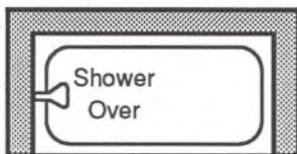

Fig. 8.4 Symbol for a bathtub with shower over.
The symbol for a bathtub is shown in Fig. 8.4 and on the drawing guide. Standard bathtubs are 30" wide by 60" long. Some special-order models, including those of fiberglass and acrylic, are 32" to 34" wide. Longer bathtubs, up to 72", are also available.
1. If you plan to have a shower over the bathtub, draw the symbol as shown in Fig. 8.4 and write "Shower Over."